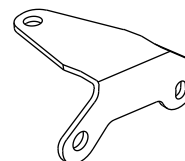

Figure 2
Fastener and bracket location see Figure 2.
①	Qty. (4)	M10 X 40 X 1.25 CL8.8 Hex Bolt	⑤	Qty. (4)	Block 1/4 X 1.50 X 3.00
②	Qty. (4)	3/8" Conical Toothed Washer	⑥	Qty. (2)	1/2" Lockwasher
③	Qty. (2)	1/2-13 X 2.00 GR 5 Hex Bolt	⑦	Qty. (2)	1/2" Hex Nut
④	Qty. (2)	M10 X 1.25 Hex Nut	⑧	Qty. (2)	7/16 Washer
- Remove the existing bracket shown in **Figure 2** from the driver's side vehicle frame rail and the rear end panel and return to vehicle owner.
- Raise hitch into position and install the M10 Hex bolts and the 3/8" conical toothed washers into the existing weldnuts in the vehicle. If no weldnuts are present on the passenger side, then use the nuts and washers provided. (④, ⑧)